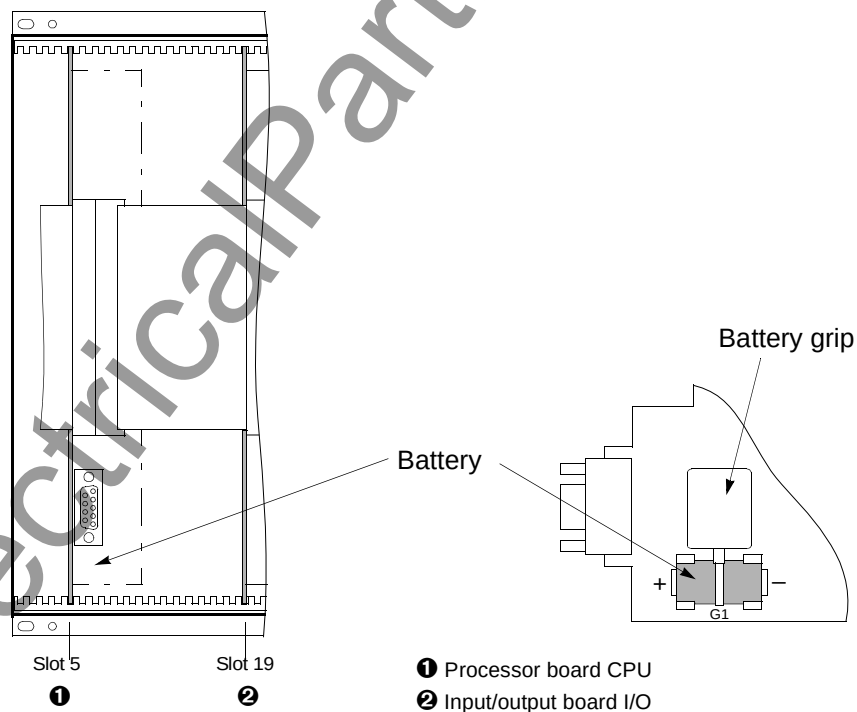

Figure 9-1 Front view without front panel — position of buffer battery (simplified and reduced)
- ☐ Disconnect the ribbon-cable that links the front panel and the CPU board (❶), at the side of the front panel. To disconnect the cable, push up on the top latch of the plug connector and push down on the bottom latch of the plug connector. Carefully set aside the front panel.
- ☐ The battery is located on the bottom-front side of the CPU (❶) board. See Figure 9-1.
- ☐ Remove the old battery from the snap-on connector using the plastic battery grip shown in Figure 9-1.
- ☐ Observing the polarity and firmly insert the new battery into the snap-on connector shown in Figure 9-1.
- ☐ Connect the ribbon-cable between the CPU (1) board and the front panel. Be especially careful not to bend any of the connector pins! Do not use any force! Be sure that the plug connectors latch.